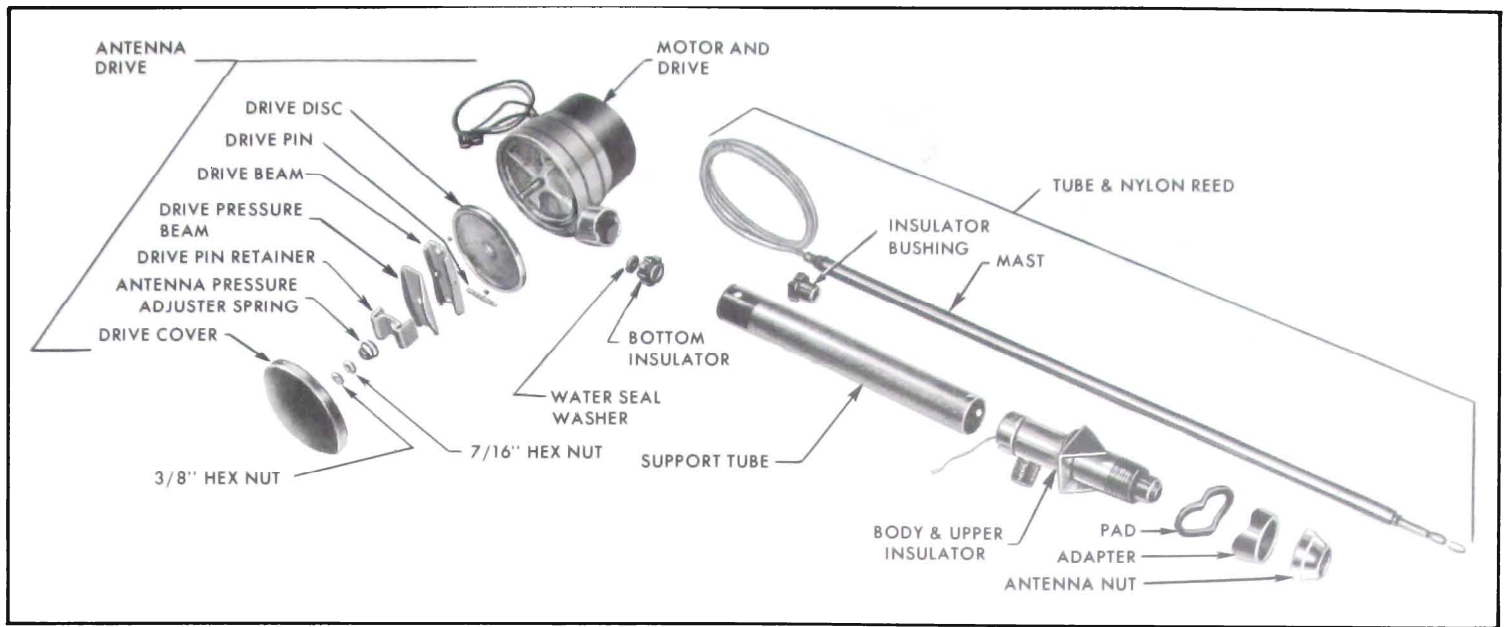

Figure 11-11—Electric Antenna (Exploded View)
1. Remove the 3 screws holding the body and upper insulator assembly to support tube (see Figure 11-11).
13. Lift antenna pressure adjuster spring off shaft (see Figure 11-11).